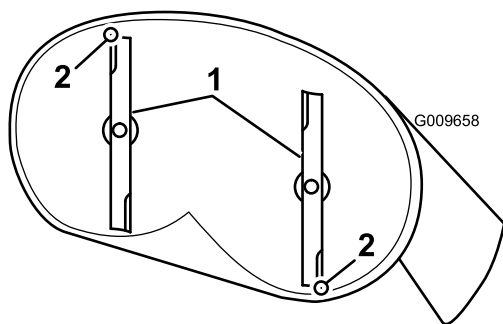
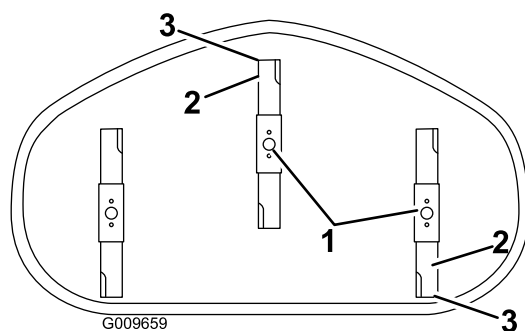

Figure 71
Figure 72
4. Carefully rotate the blades so they are facing front to rear (Figure 71 and Figure 72).
5. Measure from the tip of the front blade to the flat surface, and the tip of the rear blade to the flat surface (Figure 71 and Figure 72).
9. After adjustment, check the front-to-rear slope again, continue adjusting the nut until the front blade tip is 1.6 to 7.9 mm (1/16 to 5/16 inch) lower than the rear blade tip (Figure 71 and Figure 72).